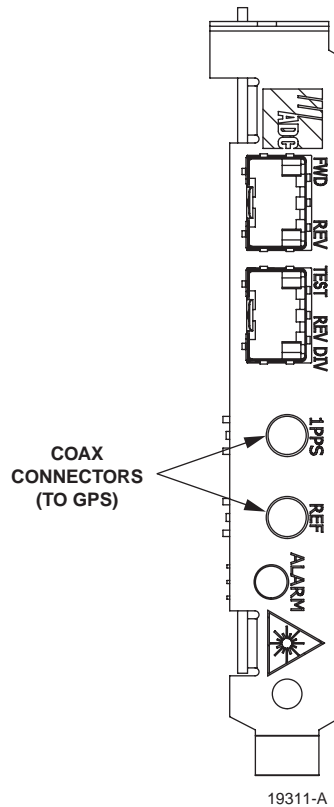

Figure 2. Coax Connectors
4. Connect the cables to the connectors on the SDR PCIx Host card as shown in Figure 2.